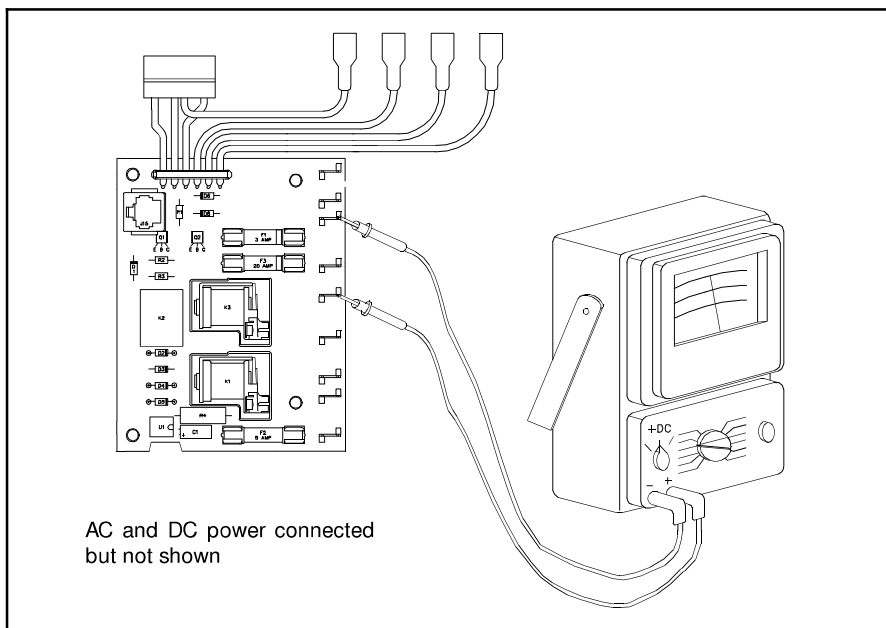

Figure 11.60 12 Volt DC Heater Output Check
19. Check the DC heater terminals J3, J5 on the Power Supply for 12 volts DC per Figure 11.60.